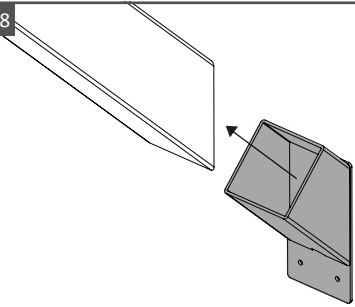

Fig. 39
4. Be sure the Lateral Bracing Brackets are orientated in correct direction on the Lateral Bracing Support with the bracket flange facing away from the angle. As shown in Fig. 39. Adjust if needed.